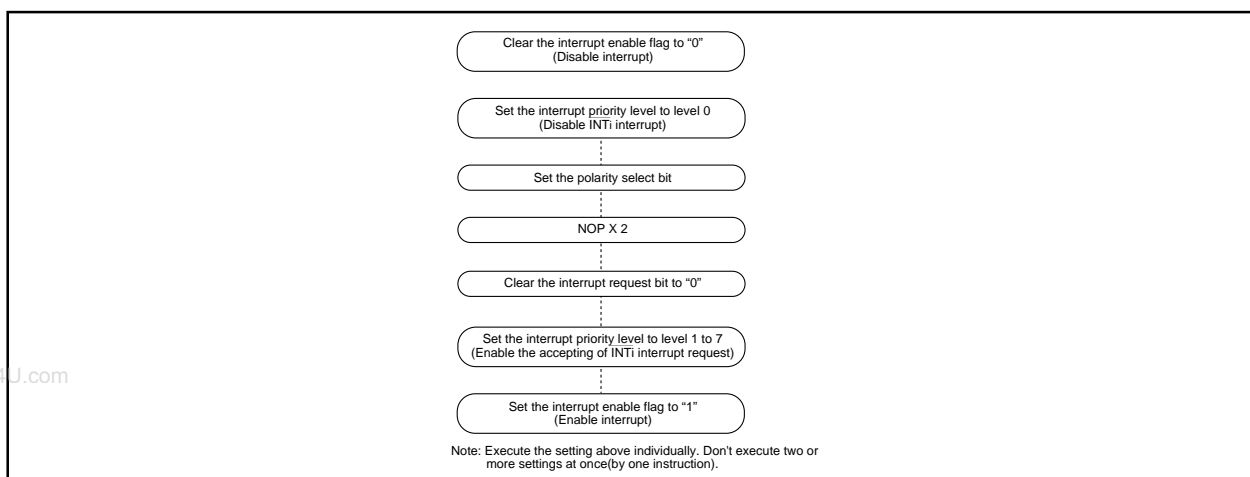

Figure 1.12.13. Switching condition of INT interrupt request
(2) Setting the stack pointer
(3) The $\overline{\text{NMI}}$ interrupt
(4) External interrupt
- When the polarity of the $\overline{\text{INT0}}$ to $\overline{\text{INT5}}$ pins is changed or the interrupt request cause of the software interrupt numbers 8 to 9 is changed, the interrupt request bit is sometimes set to "1". After these changes were made, set the interrupt request bit to "0". Figure 1.12.13 shows the procedure for changing the $\overline{\text{INT}}$ interrupt generate factor.
(5) Watchdog timer interrupt